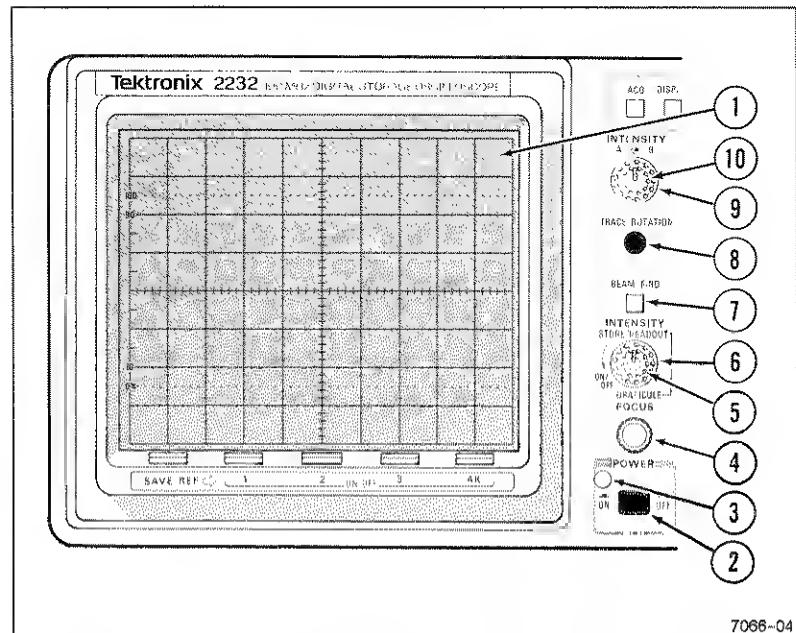

Figure 3-1. Power and display controls and power-on indicator.
Refer to Figure 3-1 for location of items 1 through 10.